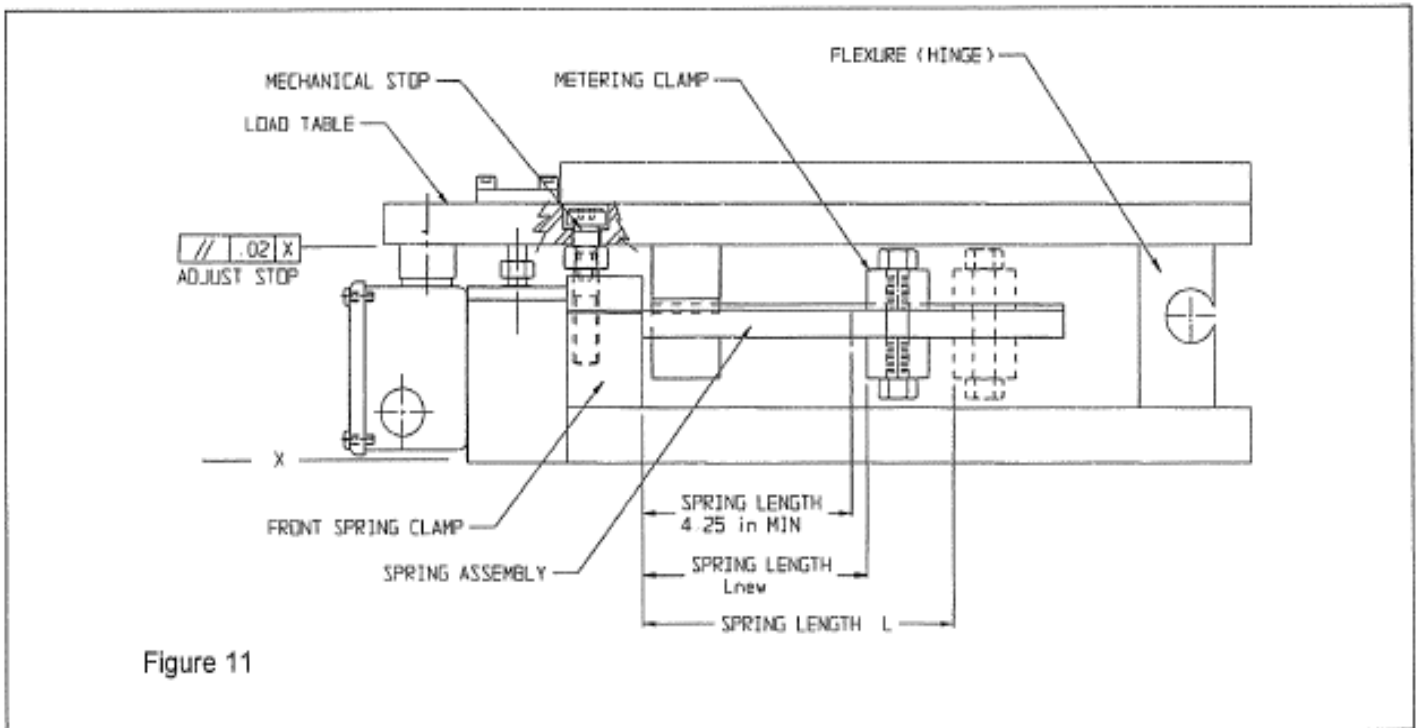

Figure 11
Loadcell recalibration involves changing the spring length which in effect changes the calibrated operating load capacity of the unit. This is accomplished by increasing or decreasing the spacing between the opposing faces of the front spring clamp and the metering blocks. (Refer to Figure 11)
3. Check that the load plate is parallel to the base plate ($\pm .020"$). This in effect removes the tare weight acting on the load plate. Depending on the load capacity of the units and the applied tare weight, the load table may require the use of a prying or clamping device to force the load table parallel to the base plate, and blocking it to maintain the position. (Refer to Figure 11 before proceeding with Step 3a or 3b)